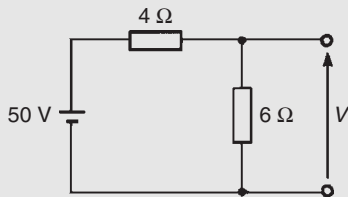
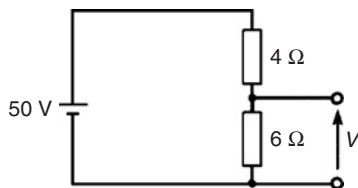

Figure 5.6
Figure 5.7
**Problem 4.** Determine the value of voltage  $V$  shown in Fig. 5.6
Figure 5.6 may be redrawn as shown in Fig. 5.7, and